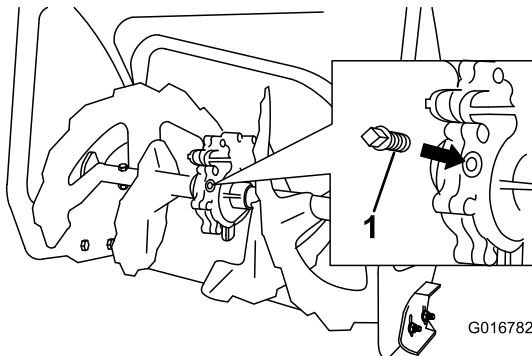

Figure 36
- Clean the area around the pipe plug (Figure 36).